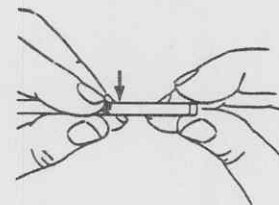

Figure 3-3. Testing the deflection section.
- (3) Grasp both ends of the deflection section and pull outward with your fingers as illustrated in figure 3-3. No perceptible elongation of the deflection section should occur at the point indicated by the arrow in the illustration.